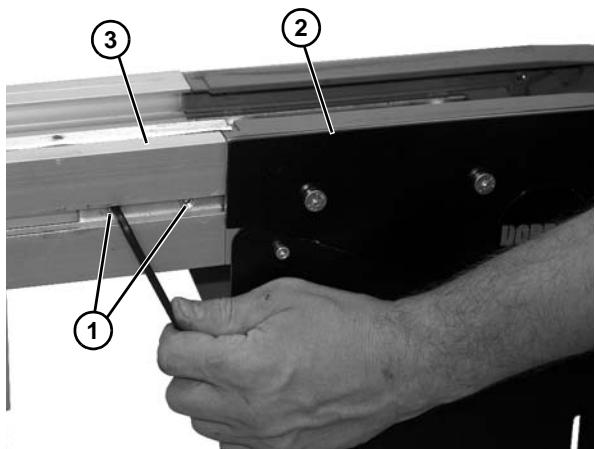

Figure 117
3. Loosen two screws (**Figure 117, item 1**) on each side of conveyor, and remove the drive tail assembly (**Figure 117, item 2**) from the conveyor frame (**Figure 117, item 3**).